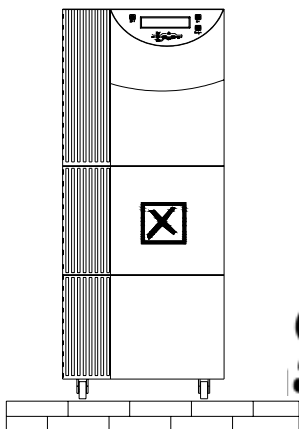

Figure8
4. Please keep away from fire source and high temperature to avoid over-high temperature. (Figure 8)